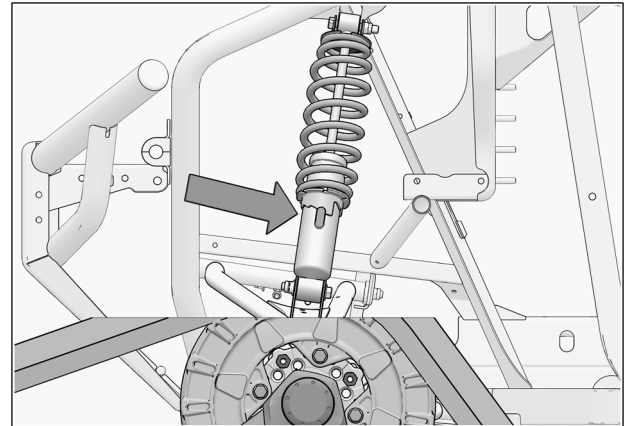

Fig. 26
- Verify the suspension settings. If the shock absorbers are adjustable, adjust them to the stiffest setting to allow for maximum clearance between the System and the vehicle's fenders. See Fig. 26